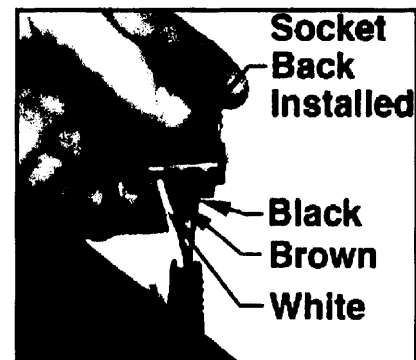

Figure 5
13. Reassemble the two halves of the bulb socket and secure by reconnecting the clips on each side. See Figure 5.